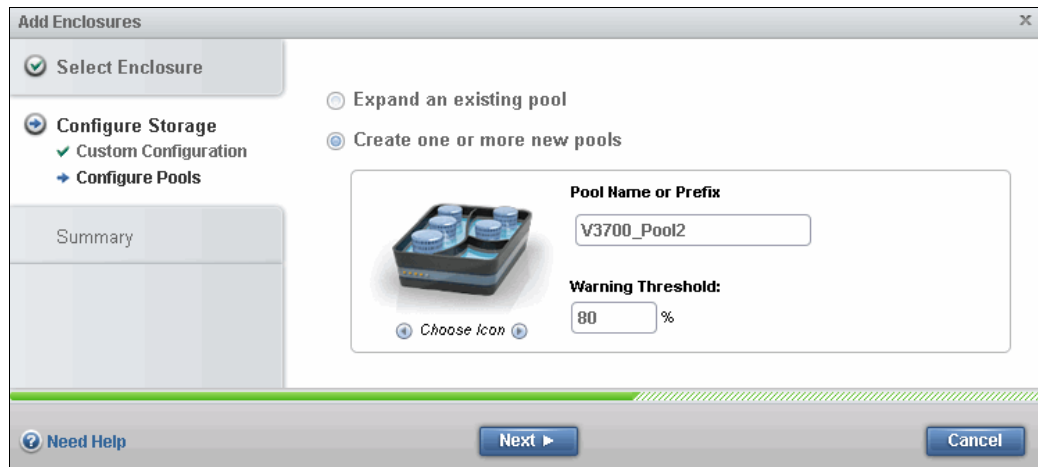

Figure 2-40 Storage Pool selection
9. Choose whether an existing pool is expanded or whether a new pool is created for the configuration, as shown in Figure 2-40. In our example, we create a new Storage Pool named V3700_Pool2.